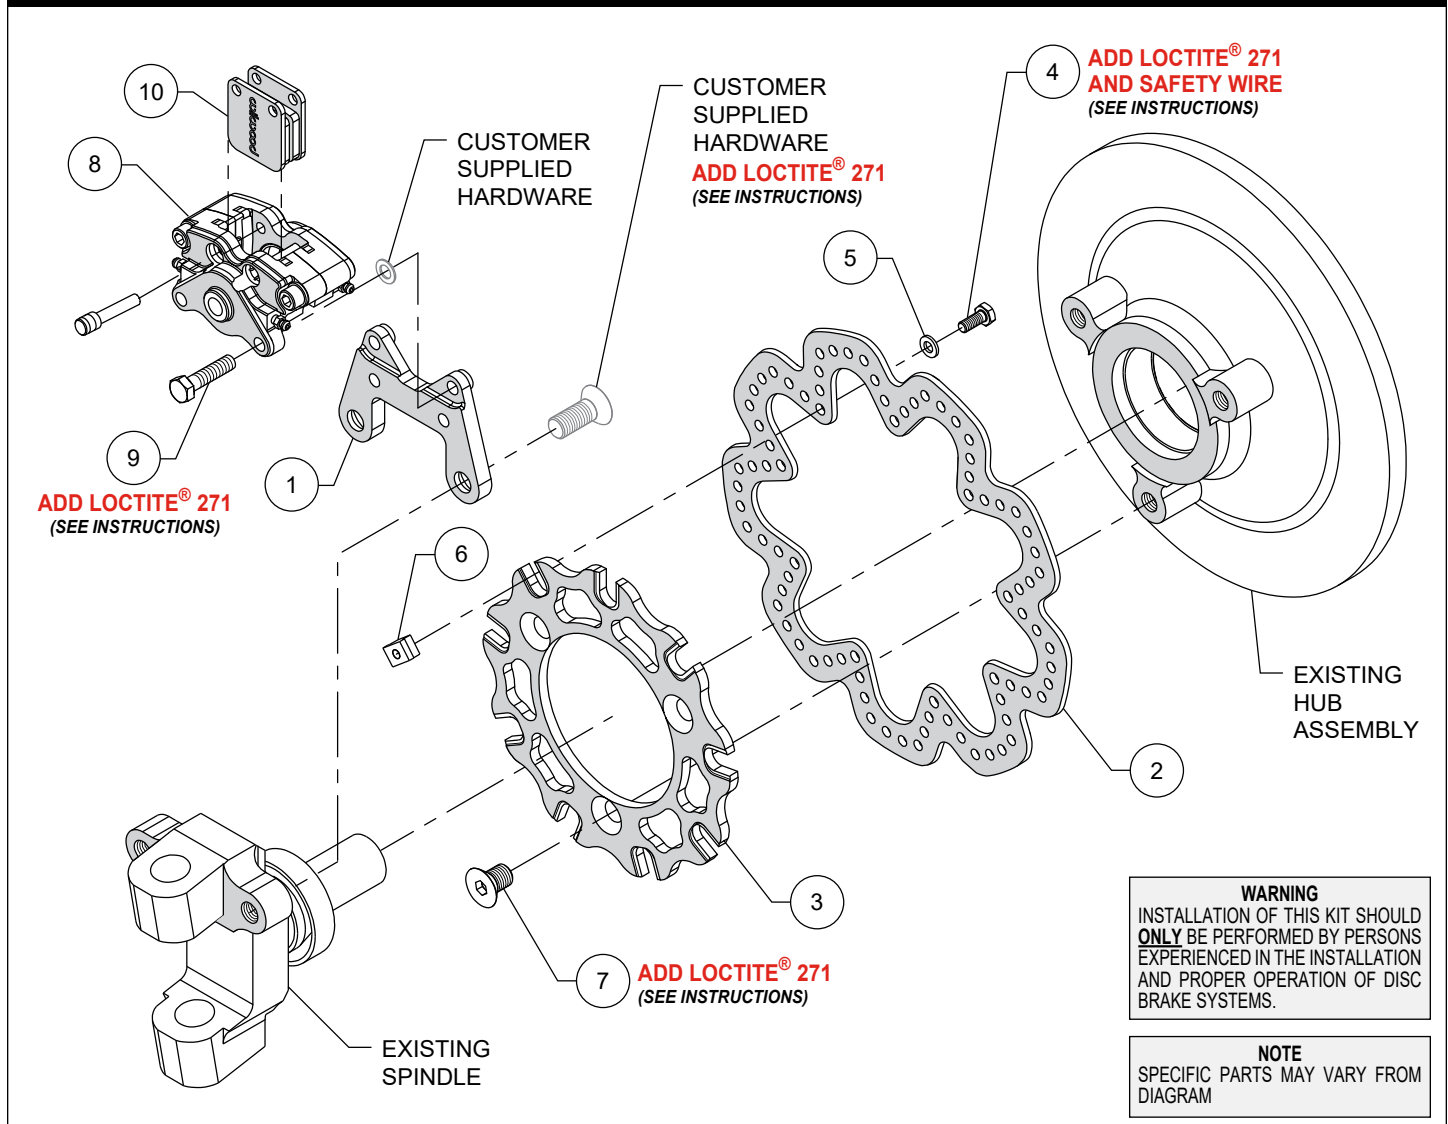
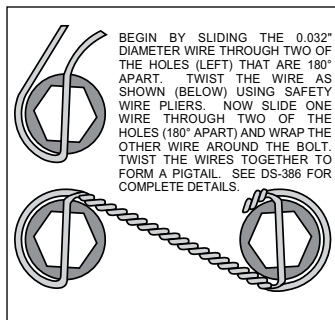
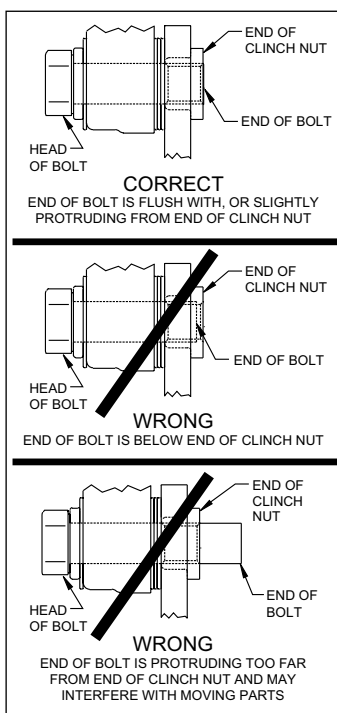

Figure 1. Typical Installation Configuration
Figure 2.
Figure 3. Clinch Nut Engagement Diagram
NOTE: Numbers in parenthesis refer to the parts list and Figure 1 on the preceding pages.
CAUTION: All mounting bolts must fully engage clinch nuts. Be sure to check that all bolts are either flush or protruding through flanged side of clinch nut after shimming, Figure 3. **NOTE:** Some bolt hardware to be supplied by customer.
•Orient the caliper mounting bracket (1) as shown in Figure 1, and install using customer supplied bolts. **NOTE:** The bracket must fit squarely against the mount bosses on the spindle. Inspect for interference from machining ridges, burrs, etc. Remove bolts one at a time, apply red *Loctite*® 271 to the threads and torque to spindle manufacturer's specifications.
•Orient the rotor adapter (3), as shown in Figure 1, (with the notched t-nut slots facing inboard) and mount to the rotor (2) using bolts (4), washers (5), and t-nuts (6). Apply red *Loctite*® 271 to the bolt threads and torque to 120 in-lb. Safety wire bolts using standard 0.032 inch diameter stainless steel safety wire as shown in Figure 2. Please refer to Wilwood's data sheet DS-386 (available at www.wilwood.com/Pdf/DataSheets/ds386.pdf) for complete safety wire installation instructions.
•Mount the rotor/adapter (2 and 3) to existing hub assembly using bolts (7). Apply red *Loctite*® 271 to bolt threads and torque to 80 ft-lb.
•Orient the caliper (8), as shown in Figure 1, and install using bolts (9). Temporarily tighten the bolts and view the rotor through the top opening of the caliper. The rotor should be centered in the caliper. If not, adjust by adding or subtracting customer supplied shims between the bracket and the caliper. Always use the same amount of shims on each of the two mounting bolts. **NOTE:** The end of each caliper mounting bolt must be flush with or slightly protruding from the head of the clinch nut, as shown in Figure 3. If necessary, add shims between washer and caliper mounting ear to achieve the proper clinch nut engagement. Once the caliper alignment and clinch nut engagement are correct, remove the bolts one at a time, apply red *Loctite*® 271 to the threads, and tighten securely.
•Remove the two pad retaining pins from the caliper (8). Insert the brake pads (10) into the caliper, with the friction material facing the rotor as shown in Figure 1. Secure the brake pads in place by reinstalling the pad retaining pins, see Figure 1. **CAUTION:** *Ensure pad retaining pins are completely engaged into caliper.* It is recommended to use a small flat punch and hammer to tap the pins in until they are fully seated.